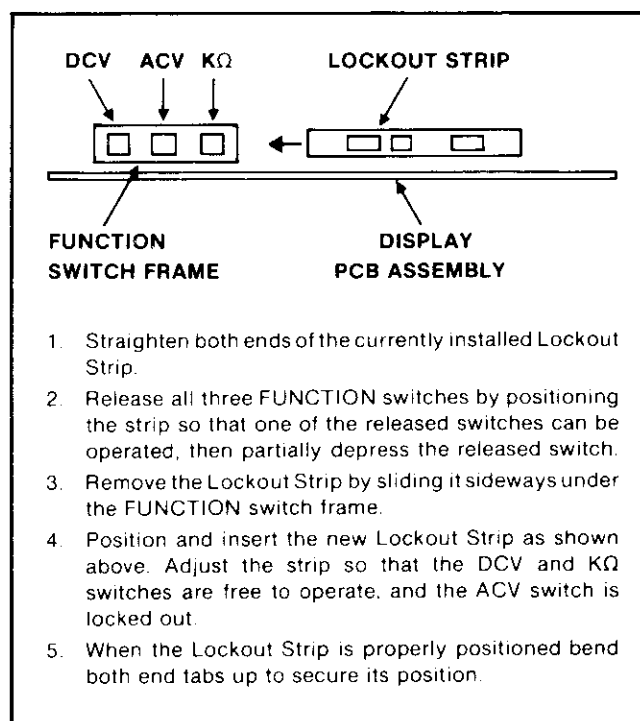

Figure 607-1. Installing the Lockout Strip
2. Determine the measurement functions that will be available when the Ohms Converter is installed; i.e., DCV and k Ω or DCV, ACV and k Ω . If ACV is not available, prepare and install the Lockout Assembly as shown in Figure 607-1. If the True RMS/AC Converter (Options -009/-008) is installed, the Lockout Assembly is not required. In this case, complete only steps 1, 2, and 3 of Figure 607-1.